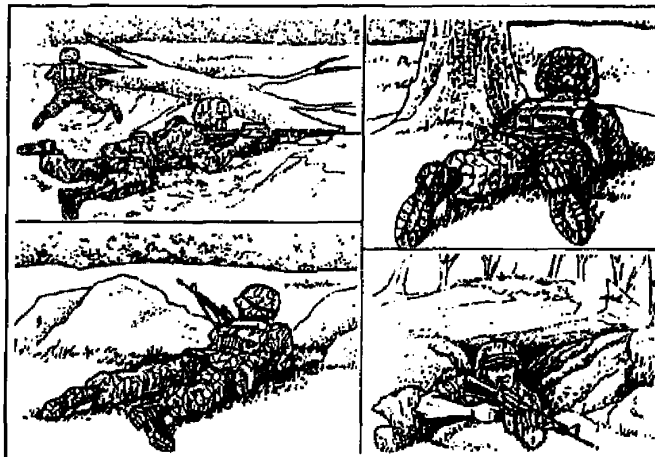

Figure 071-326-0513-1. Temporary fighting positions
1. Choose a position that takes advantage of available cover and concealment (figure 071-326-0513-1).